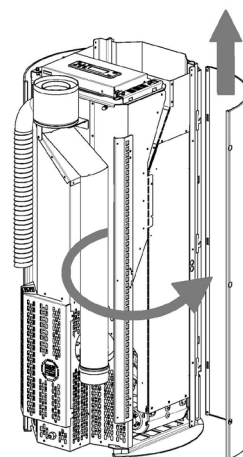

Fig. 73 - Removing the side panel
- Open the side and release it from the teeth (see **Fig. 73**).